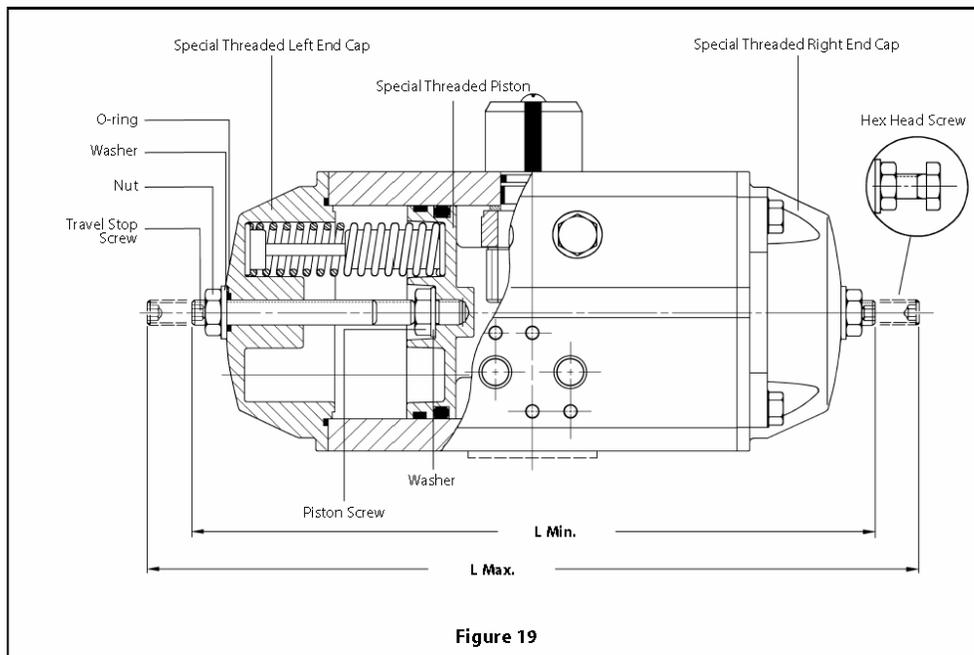

Figure 19
- A. Fit position indicator (19) on the shaft (60), verifying that it indicates the correct actuator position.
- B. Tighten cap screw (39) to secure the position indicator.
7. Setting 100% Adjustable Stop (If applicable). (Figure 19):